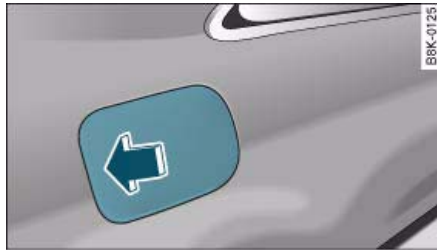

Fig. 218 Vehicle as seen from the rear right: Opening fuel tank flap
- Press the left side of the flap to open it ⇒ fig. 218 -arrow-.